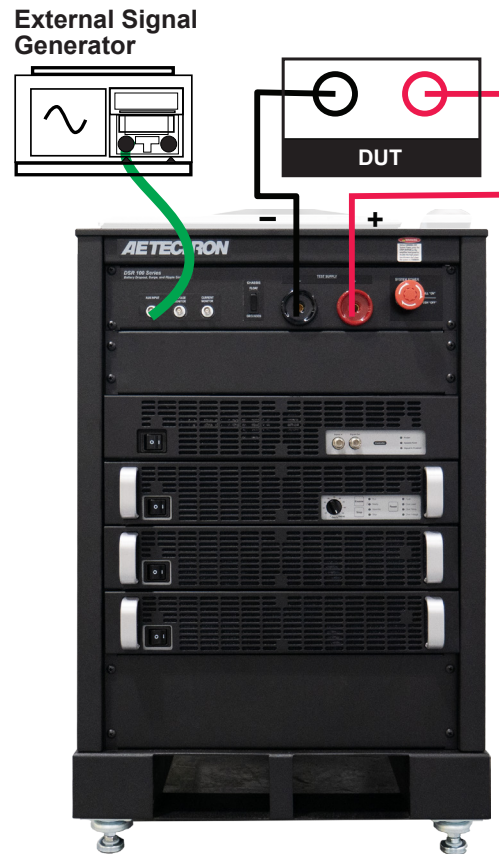

Figure 4.6 – Connections for External Signal Source Use
necter on your external signal source to the DSR system’s BNC connector labeled Aux Input. See **Figure 4.6**.
3. **Connect the Outputs:** Using the supplied pin-plug connectors and wiring appropriate for your application, connect from the DSR 100’s positive and negative test supply connectors to the device under test. See **Figure 4.6**.